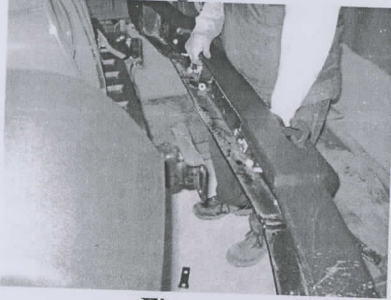

Figure 2
2. Remove the OE bumper by first unplugging the driving lights and then unclipping the wiring harness from the bumper crash bar. Then remove the eight nuts located on the frame horns. Once the eight nuts are removed, remove and retain the four backer plates. The bumper assembly will slide off. Remove the OE driving lights from the OE bumper. **Refer to Figure 2.**